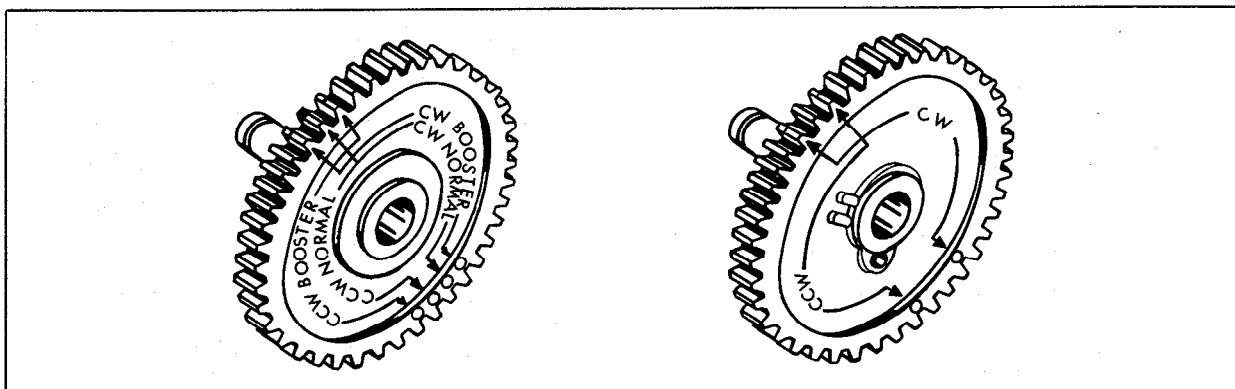

Figure 1. 10-157197 Distributor Gears with Different Timing Marks
2. If old distributor gear, P/N 10-157197, which incorporated two different molded timing identification marks was used (see figure 1), proceed as follows: